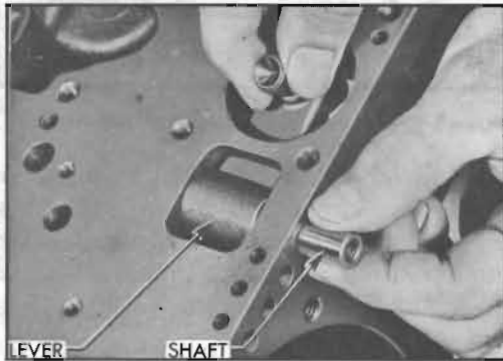

Figure 5-92—Installing Low Band Operating Lever and Shaft
1. Install the low band operating lever and shaft. Strut shoulder of lever must be toward inside of case and tapped end of shaft must be outward. See figure 5-92.
2. With the assembly standing on end of rear bearing retainer, install a wooden block (1"x2"x3½") as shown in figure 5-92. Set both low band struts in position on block, with plain ends engaging strut shoulder of operating lever and groove in anchor shaft and with